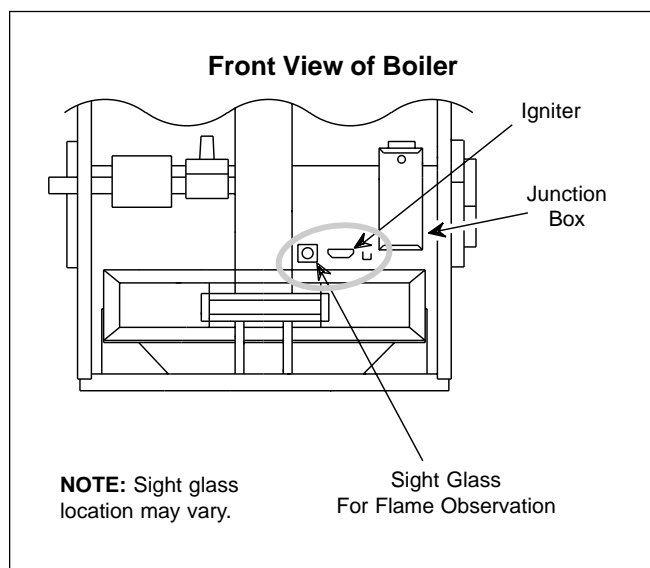

Figure 12. Periodic Flame Observation.
- b. The ignition control turns on the combustion fan. After about a 15 second pre-ignition purge, while the fan clears the combustion chamber, the igniter is turned on. The igniter takes about 25 seconds to heat up. You can see a glow through the view port (see Figure 12).
- c. When the igniter is hot, the ignition control turns on the gas valve and the burner ignites. You can see the burner flame through the view port (see Figure 12).